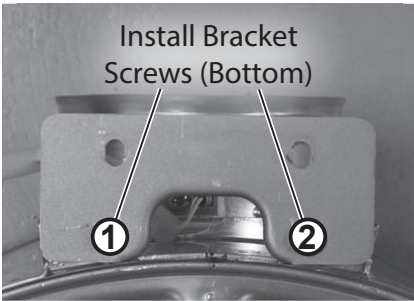

Figure 150 - Heat exchanger install bracket
- 48** Locate the two (2) bottom screws securing install bracket to old heat exchanger as shown in Figure 150. Remove screws and install bracket from old heat exchanger. Secure install bracket to the new heat exchanger with the two (2) bottom screws.